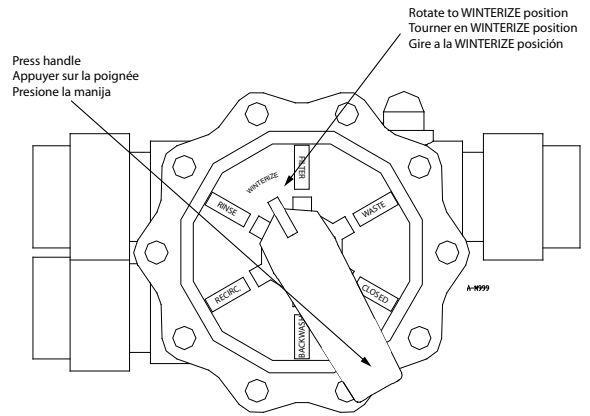

Figure 8
- Press the valve handle and rotate the pointer to the WINTERIZE position (Figure 8). This will drain any remaining water from the valve. Leave the handle in this position during the winter.